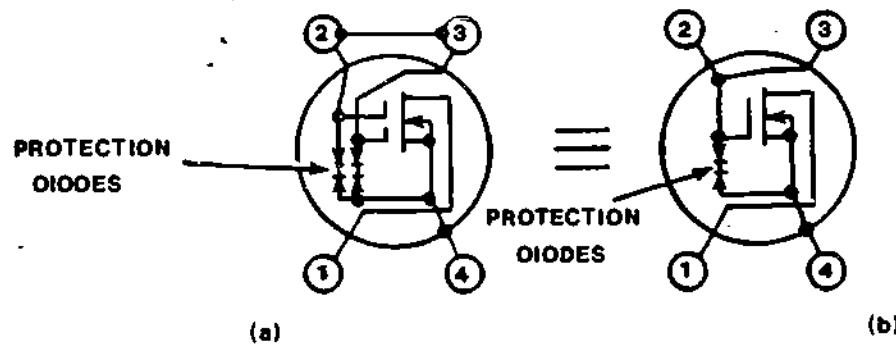

Figure 22
(22) Some MOSFETs have built-in gate protection circuits to avoid damage due to excessive voltages. Figure 22 shows an example of internal diode protection circuits placed in the circuit schematics of dual and single-gate MOSFETs.
In Figure 22, the internal protection circuits are made of back-to-back